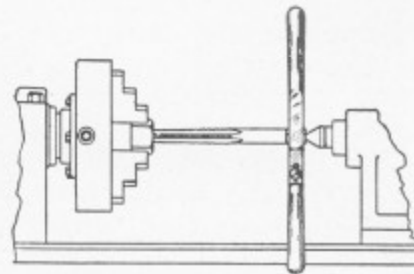

Fig. 132.—Tapping in the Lathe
**Tapping in the Lathe.**—Fig. 132 shows the tapping of a nut in the lathe. The tap is inserted in the nut held in the lathe chuck. A tap wrench is used to keep the tap from turning and the shank end is centered on the tail center. The spindle is started on slow speed and the tap may be fed in with hand wheel of the tailstock, or for light work the entire tailstock may be pushed by hand.